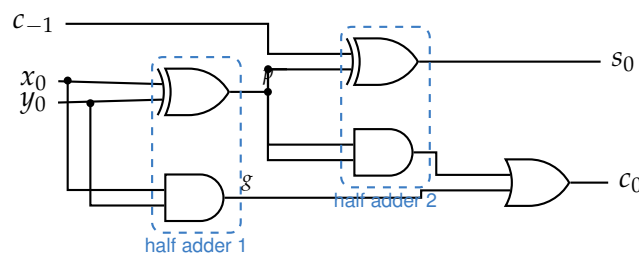

Figure 2.3: Full adder built from two half adders and an OR gate.
2. **Two half adders and an OR** (Figure 2.3): a half adder produces $x_0 \oplus y_0$ and x_0y_0 ; a second half adder adds c_{-1} . Then $c_0 = x_0y_0 + (x_0 \oplus y_0)c_{-1}$. This is the form used in most cell libraries because the *propagate* signal $p = x_0 \oplus y_0$ and *generate* signal $g = x_0y_0$ are reused by fast adders.